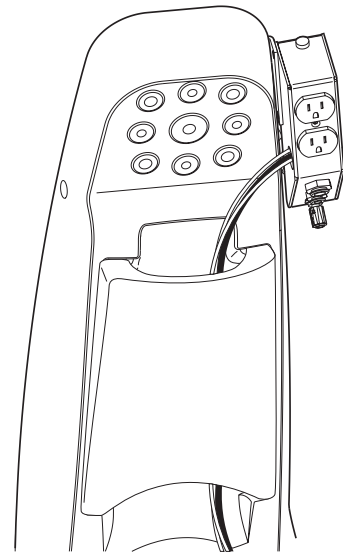

Figure 16. Routing wires from the box to the chair casting
- 1** Route wires and tubings out the hole on the side of the Quick Connection Box which is closest to the chair casting (Figure 16).